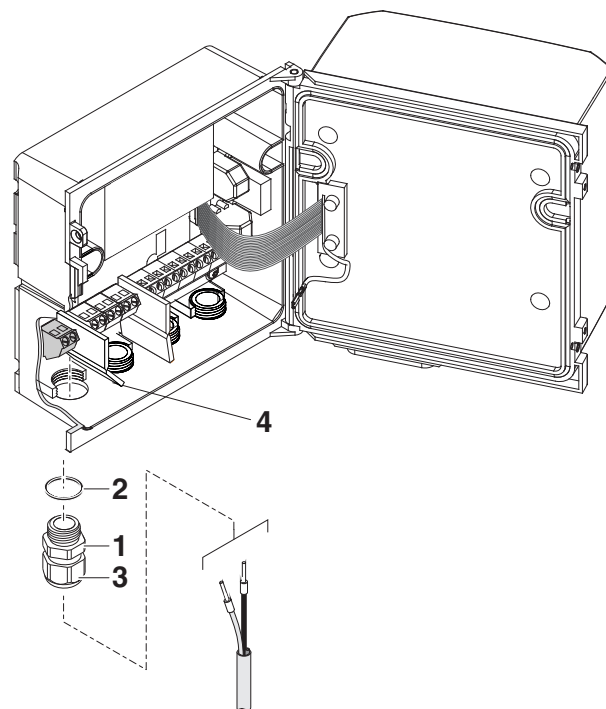

figure 3-16 Inserting the 24V AC/DC line
- 5 Screw a cable gland (pos. 1 in figure 3-16) with sealing ring (pos. 2) into the enclosure below the 24 V AC/DC connection.
- 6 Loosen the coupling ring (pos. 3).
- 7 Feed the 24 V AC/DC line through the cable gland into the enclosure. When doing so bend the flexible divider (pos. 4) to the right.
- 9 Tighten the cap nut (pos. 3 in figure 3-16).